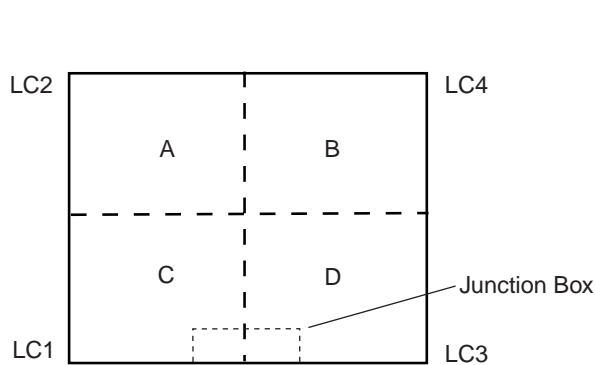

Figure 2. Top View of Scale.
2. To check shift adjustment, place a test weight equal to half the scale's rated capacity sequentially at the center of each of the quadrants A, B, C, D (Figure 2). Record the reading taken at each position. The weight readings at all corners of the platform should be the same within one count.